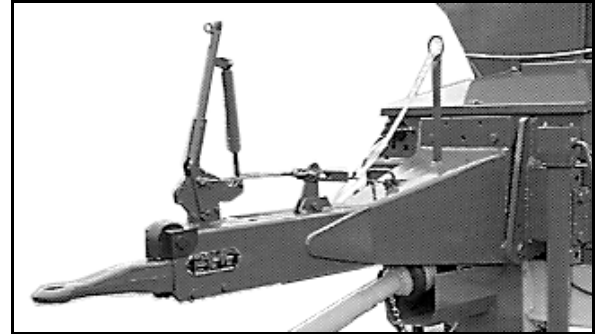

Fig. 22
- Drawbar (Fig. 22) with overrun brake and automatic reversing